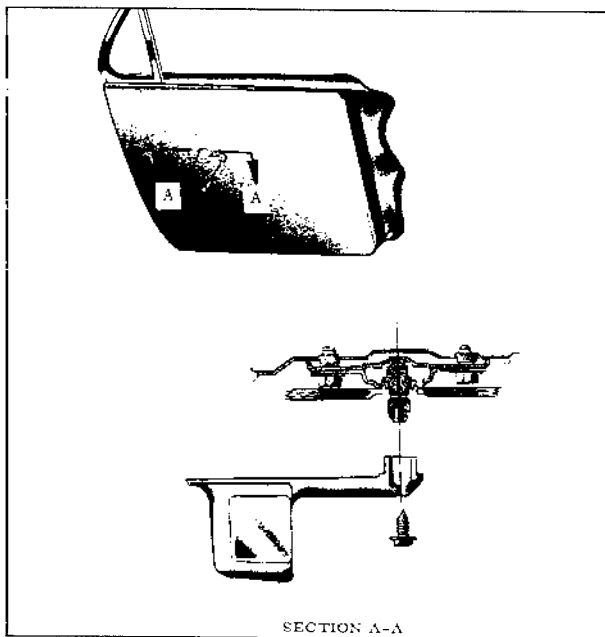

Fig. 15-7 Door Inside Remote Control "Paddle" Handles
2. Remove handle-to-remote attaching bolt and remove handle from door. (Fig. 15-7)